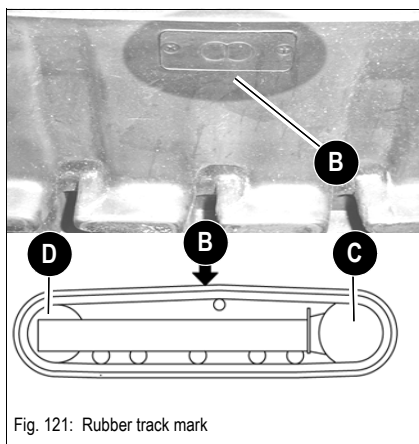

Fig. 121: Rubber track mark
- The rubber track has a mark **B** as shown in Fig. 121